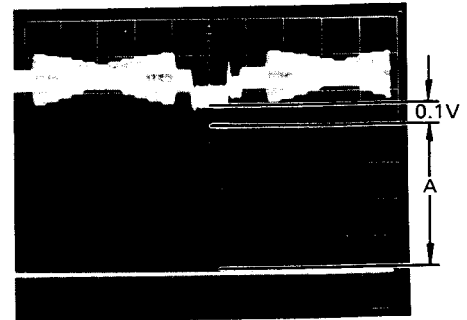

Fig. 5-6-12
- o Adjust VR12 (1H CCD BIAS) so that the H.BL DC level becomes $A+0.1V$. (Fig. 5-6-12)